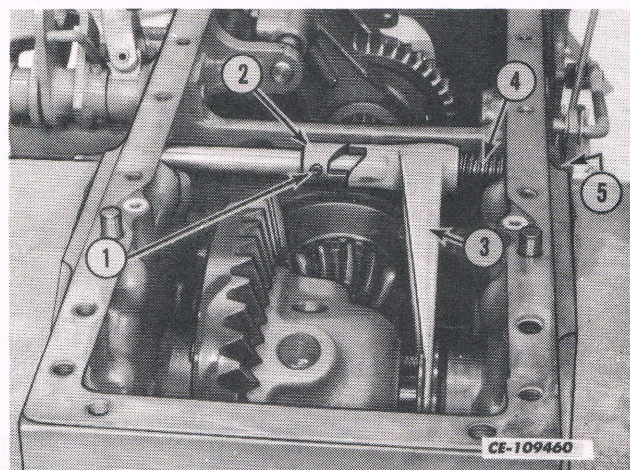

Fig. 24
18. Thread the actuating spring (4), shifter fork (3), lock shaft cam (2) on the shaft. Engage the fork in the differential lock ring groove. See Fig. 24.
19. Install the roll pin (1) through the cam and into the shaft. See Fig. 24.